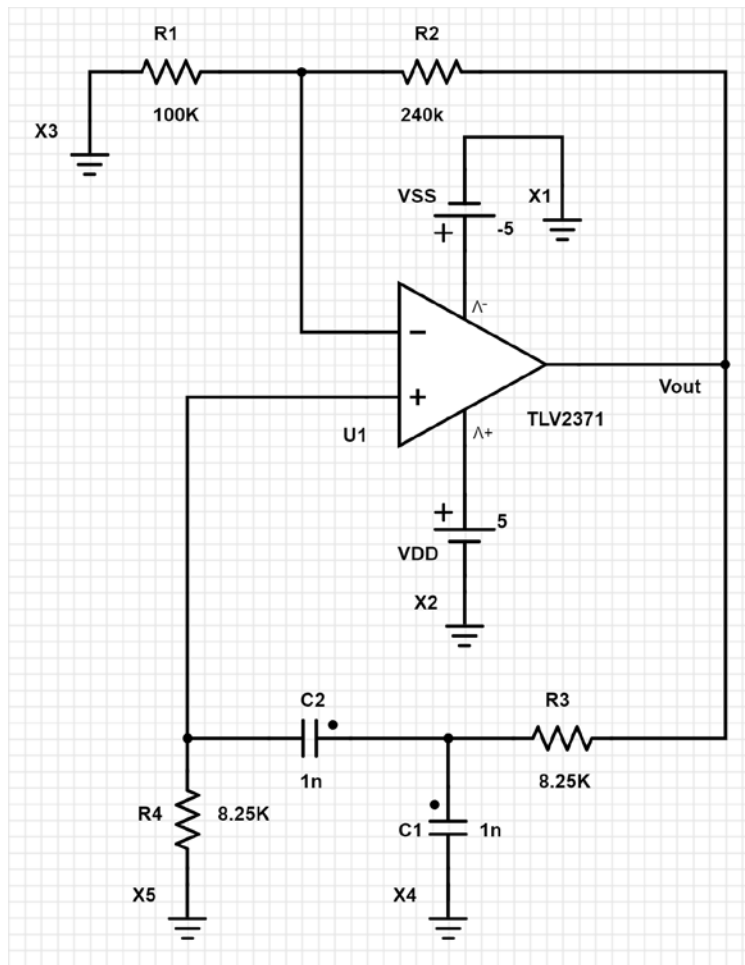

Fig. 6 Schematic diagram of the oscillator circuit
- 2.3 Using the circuit diagram shown in Fig. 6, construct the oscillator circuits with the specified resistance, capacitor values, and supply voltages.
- 2.7 Based on the circuit diagram shown in Fig. 6, construct the measurement setup as shown in Fig. 7 for the oscillator circuit using the same settings in Step 2.3 with $R_2 = 240$ k Ω .